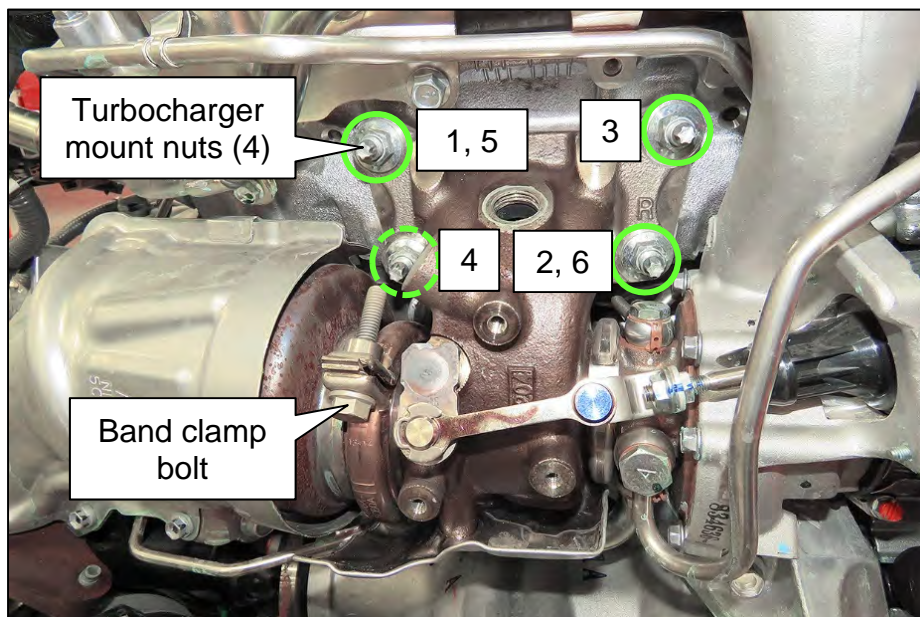

Figure 59
89. Install all four (4) turbocharger mount nuts, and then torque them in the order (from 1 to 6) shown in Figure 59.